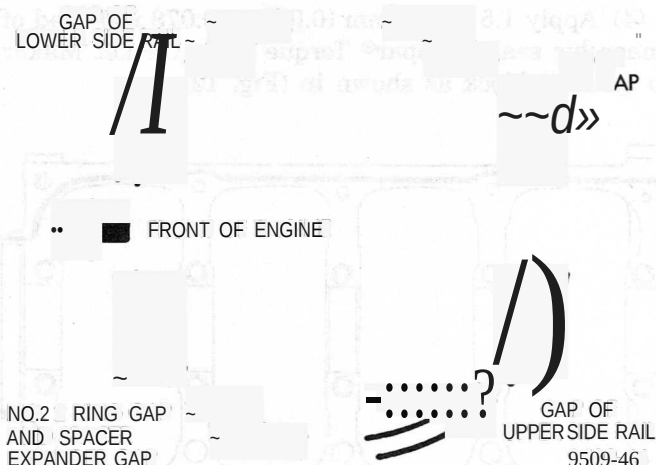

Fig. 8 Piston Ring End Gap Position
(3) Install upper side rail first and then the lower side rail.
(4) Install No. 2 piston ring and then No. 1 piston ring.
(5) Position piston ring end gaps as shown in (Fig. 8).
(6) Position oil ring expander gap at least 45° from the side rail gaps but not on the piston pin center or on the thrust direction. Staggering ring gap is important for oil control.